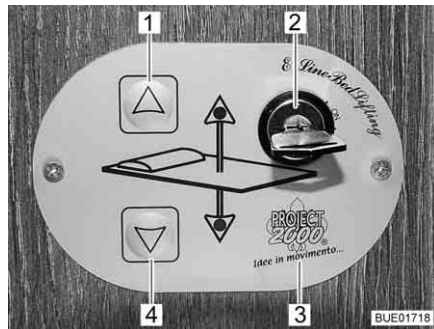
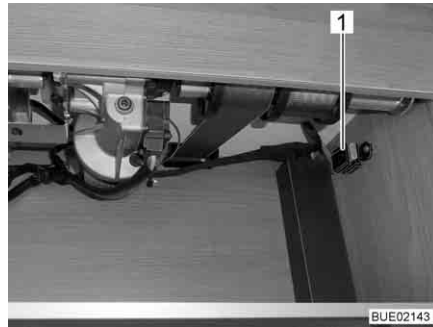

Fig. 131 Control unit
Fig. 134 Fuse
The pull-down bed is raised or lowered using the buttons (Fig. 131,1 and 4) on the control unit (Fig. 131,3). The control unit is protected against unauthorized use with the key switch (Fig. 131,2).
- Turn the key in the key switch (Fig. 131,2) through 90° clockwise. The control unit (Fig. 131,3) is activated.
- Press the arrow key (Fig. 131,4) and keep it pressed until the pull-down bed has moved down into the desired position.
- Press the arrow key (Fig. 131,1) and keep it pressed until the pull-down bed has moved down into the final upper position.
If it is no longer possible to move the pull-down bed with the arrow keys (Fig. 131,1 and 4), first of all check the fuse in the rear wall-mounted cupboard (Fig. 134,1). If the fuse is okay and it is still not possible to move the pull-down bed, the pull-down bed can be operated manually.